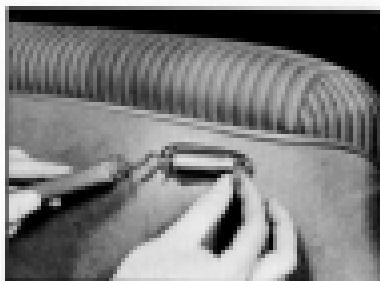

Fig. 62. Bobcat Cord Removal
- Remove outer crosshead screw from each end of bobcat cord, and remove cord as illustrated. (Fig. 62) The